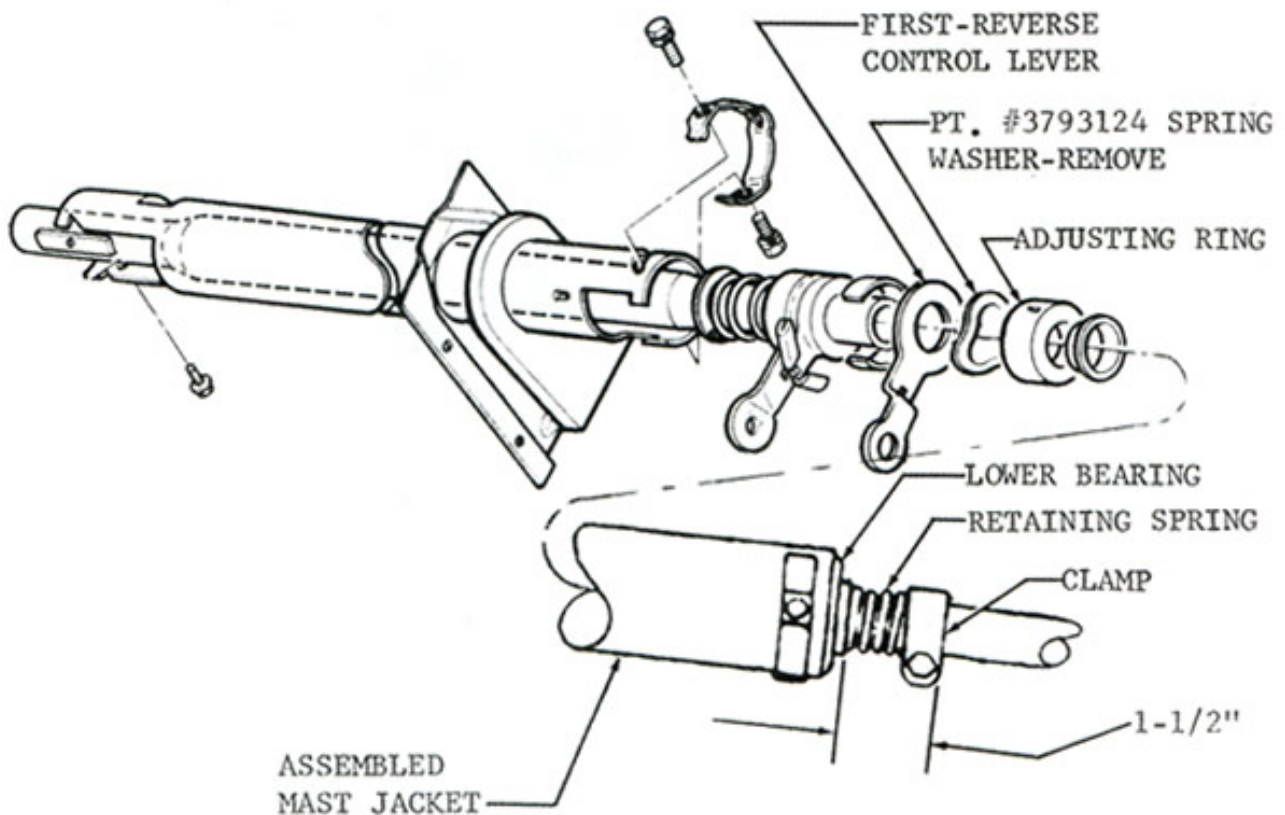

FIGURE 2 - MAST JACKET ASSEMBLY
1. Refer to Figure 2 for parts identification. Place shift lever in neutral; remove access cover from fender skirt.
8. Force lower bearing retaining spring clamp upward against spring tension until a dimension of 1-1/2" exists between lower bearing and clamp as shown in Figure 2. Tighten clamp bolt.